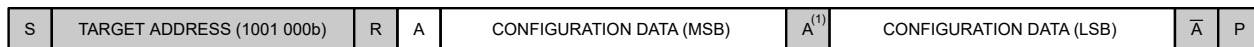

Figure 9-6. Read the Configuration Register to Check for OS = 1b
1. Write the Configuration register as shown in Figure 9-6 to configure the device (for example, when using the ADS1015L, write MUX[2:0] = 000b, PGA[2:0] = 010b, MODE = 1b, and DR[2:0] = 110b) and start a single-shot conversion (OS = 1b).
Alternatively, poll the OS bit for a 1b as shown in Figure 9-6 to determine when the conversion result is ready for retrieval. This option does not work in continuous-conversion mode because the OS bit always reads 0b.